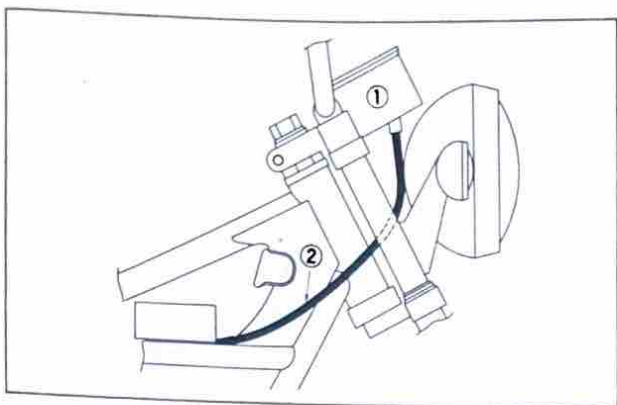

Fig. 25
18. Connect the tachometer cable to the tachometer. For detailed cable rounting, refer to illustration. (Fig. 25)